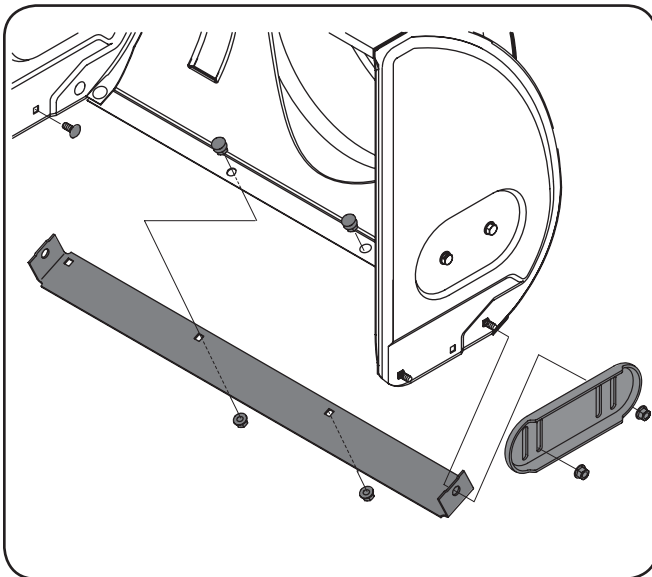

Fig. 6-1
2. Reassemble new skid shoes with the four carriage bolts (two on each side) and hex flange nuts. Refer to Fig. 6-1.